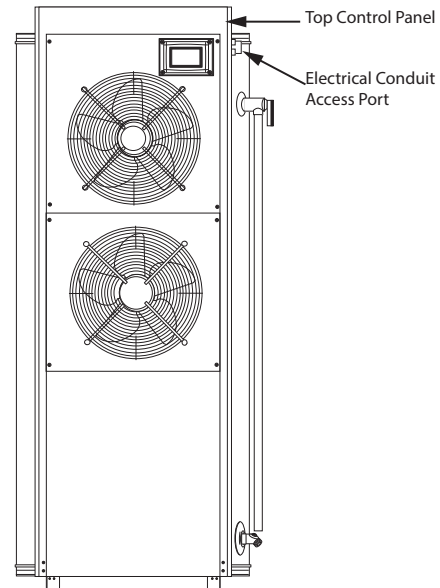

Figure 7. Electrical Installation
- a. Unlatch the top control panel cover and pick up. See *Figure 2* (page 7) and *Figure 7*.
- b. Unscrew the power electrical conduit access port. See *Figure 2* (page 7) and *Figure 7*.
4. Run the main power through the power electrical conduit access port. See *Figure 2* (page 7) and *Figure 7*.